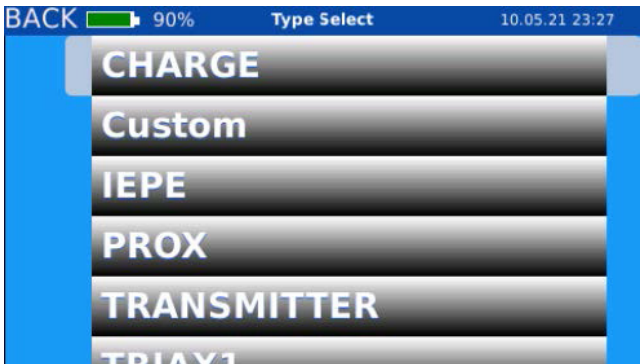

Figure 79. Select sensor type
- 2. Select the transducer type to be tested (Figure 79).